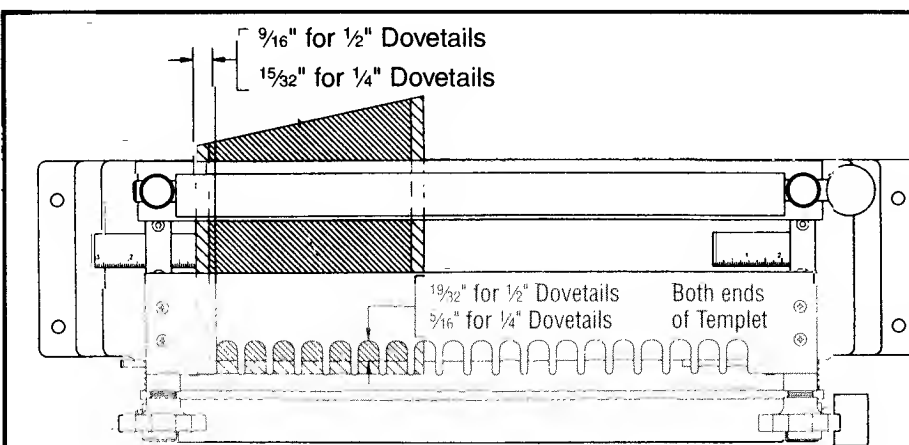

Fig. 18
1. Position drawer front "inside up" on top of jig maintaining dimensions to templet shown in Fig. 18. A gauge block with a 3/8" rabbet may be used to position drawer front as shown in Fig. 18A.